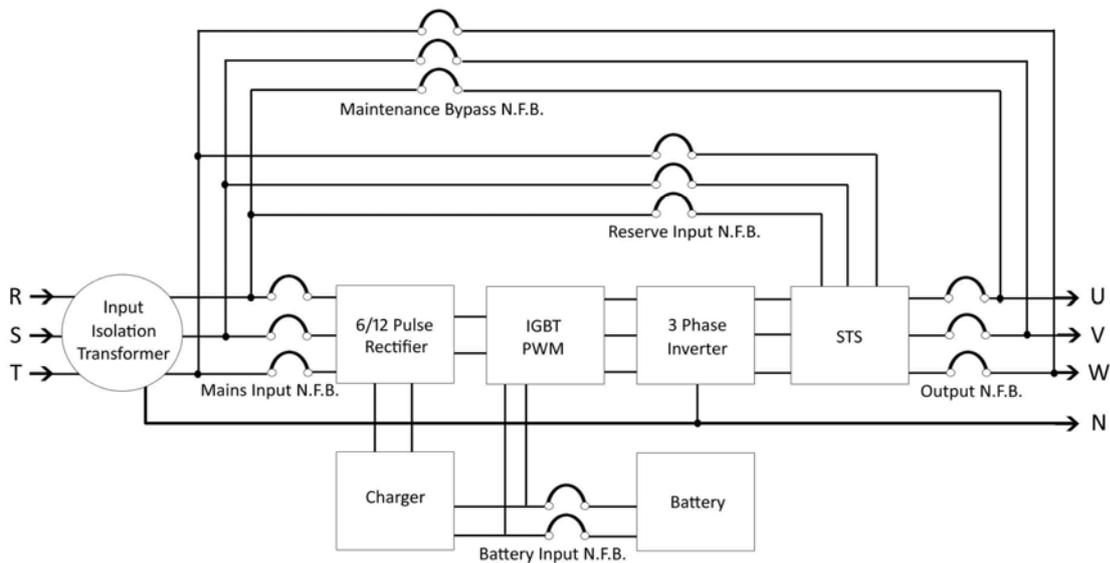

Figure 5 : UPS Block Diagram
*Figure 5: UPS Block Diagram* demonstrates the UPS working principle briefly. The utility AC power pass through the Input ISO Transformer to eliminate noise, leakage current, surge, etc, then the 6 Pulse Rectifier converts AC to DC to provide DC power for Charger to charge the battery and provide DC power for IGBT to trigger PWM to convert DC to AC. After PWM converts DC to AC, then AC will pass through the Inverter and provides reliable and stable pure sine wave power for the loads. In the event of overload or the UPS failure, the STS will work and allows the utility AC power provides power for loads directly.